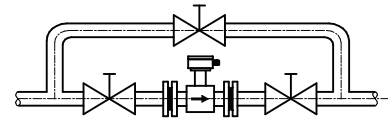

Figure 2.6
5. If necessary, a bypass can be installed for sensor installation and removal (see Figure 2.6).